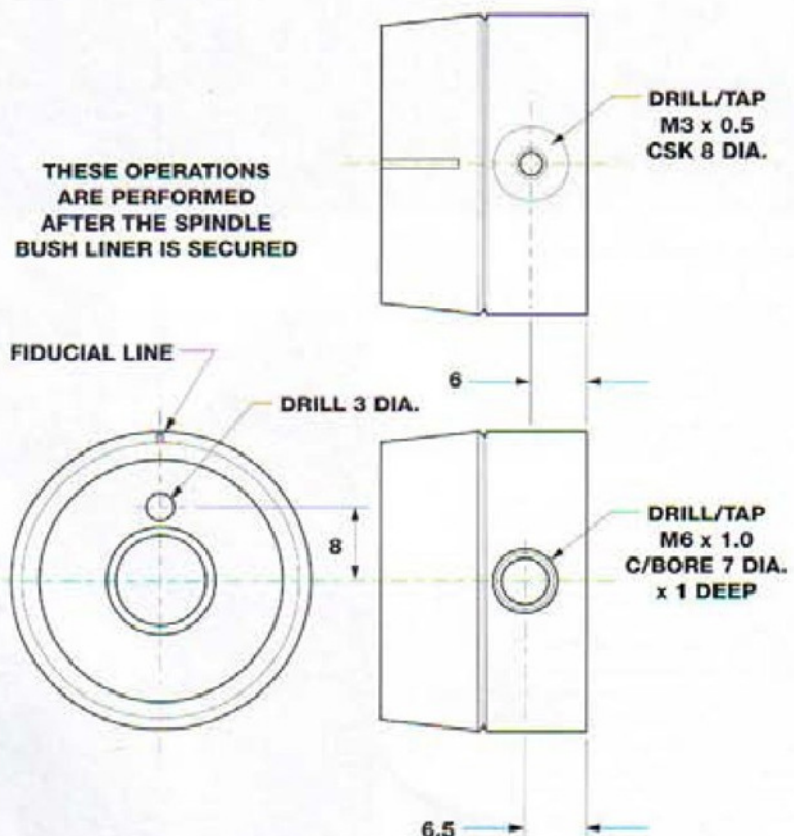

FIG. 4. LUBRICATION AND SPINDLE CLAMP HOLE LOCATIONS IN ASSY OF ITEMS 2 AND 3
10. Drill the 3mm dia. lubrication hole along the axis of the spindle bush, ensuring that it is directly beneath the fiducial line/selected lubrication screw hole location (see Fig 4.).